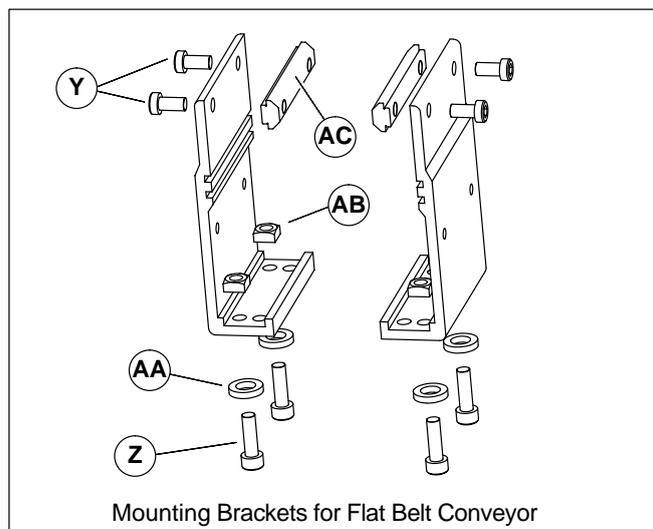
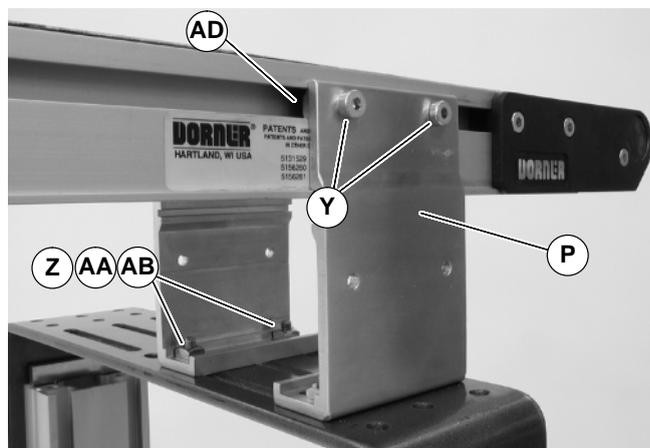

Figure 9
Figure 10
1. Locate brackets. Exploded views shown in Figures 9.
3. Insert T-bars (AC of Figures 9) into conveyor side slots (AD of Figure 10). Fasten brackets (P of Figure 10) to conveyor with mounting screws (Y).
2. Remove screws (Y & Z of Figures 9), washers (AA), nuts (AB) and T-bars (AC) from brackets.
4. Fasten brackets to support stand with mounting screws (Z of Figure 10), washers (AA) and nuts (AB).
5. Tighten screws (Y & Z of Figure 10) to 7 Nm.